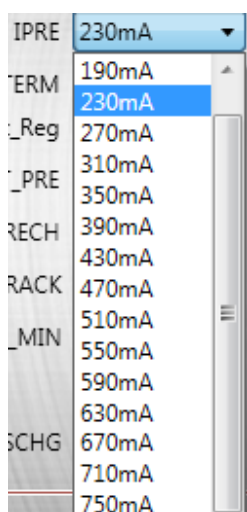

Figure 9: Setting the Pre-Charge Current
- The default value is 230mA (see Figure 9).